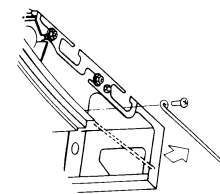

Fig. 23
- For right and left drain piping outlet, remove the copper wire on the side and screw back as before. (Refer to Fig. 23)